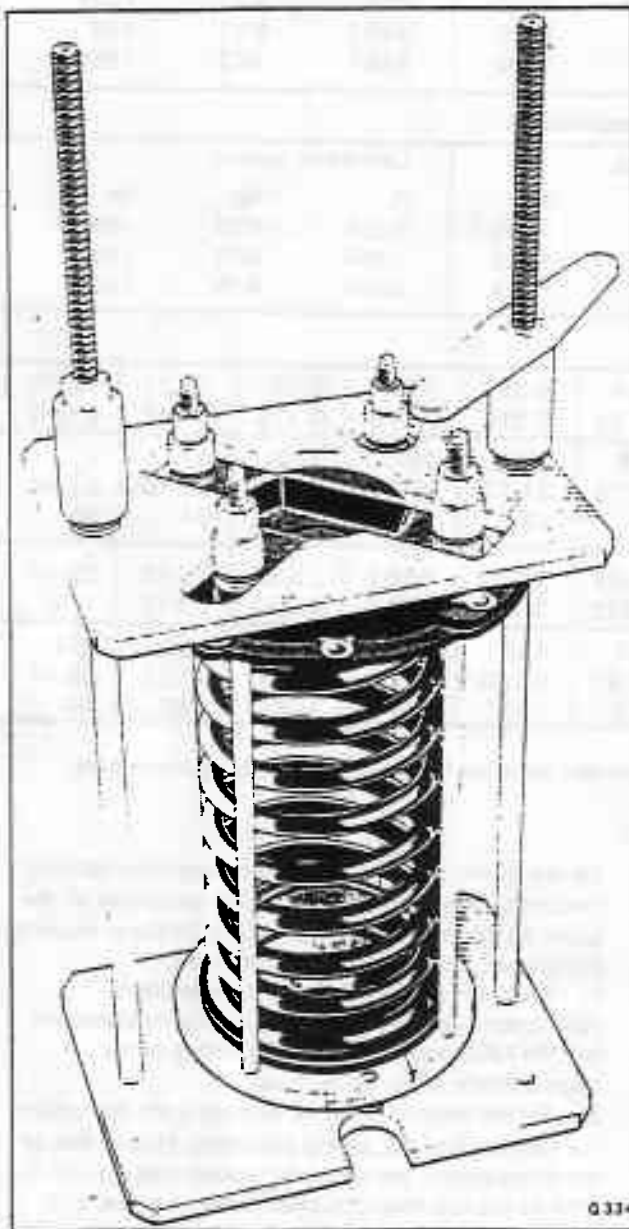

Fig. H3-3 Spring compression tool
Place the complete assembly into spring compression tool RH7909. Fit and secure the top plate of the tool to retain the spring (see fig. H3-3).
4. Place the road spring and its associated components (see fig. H3-3 into spring compression tool RH7909 and compress the spring to the measurement taken on removal.